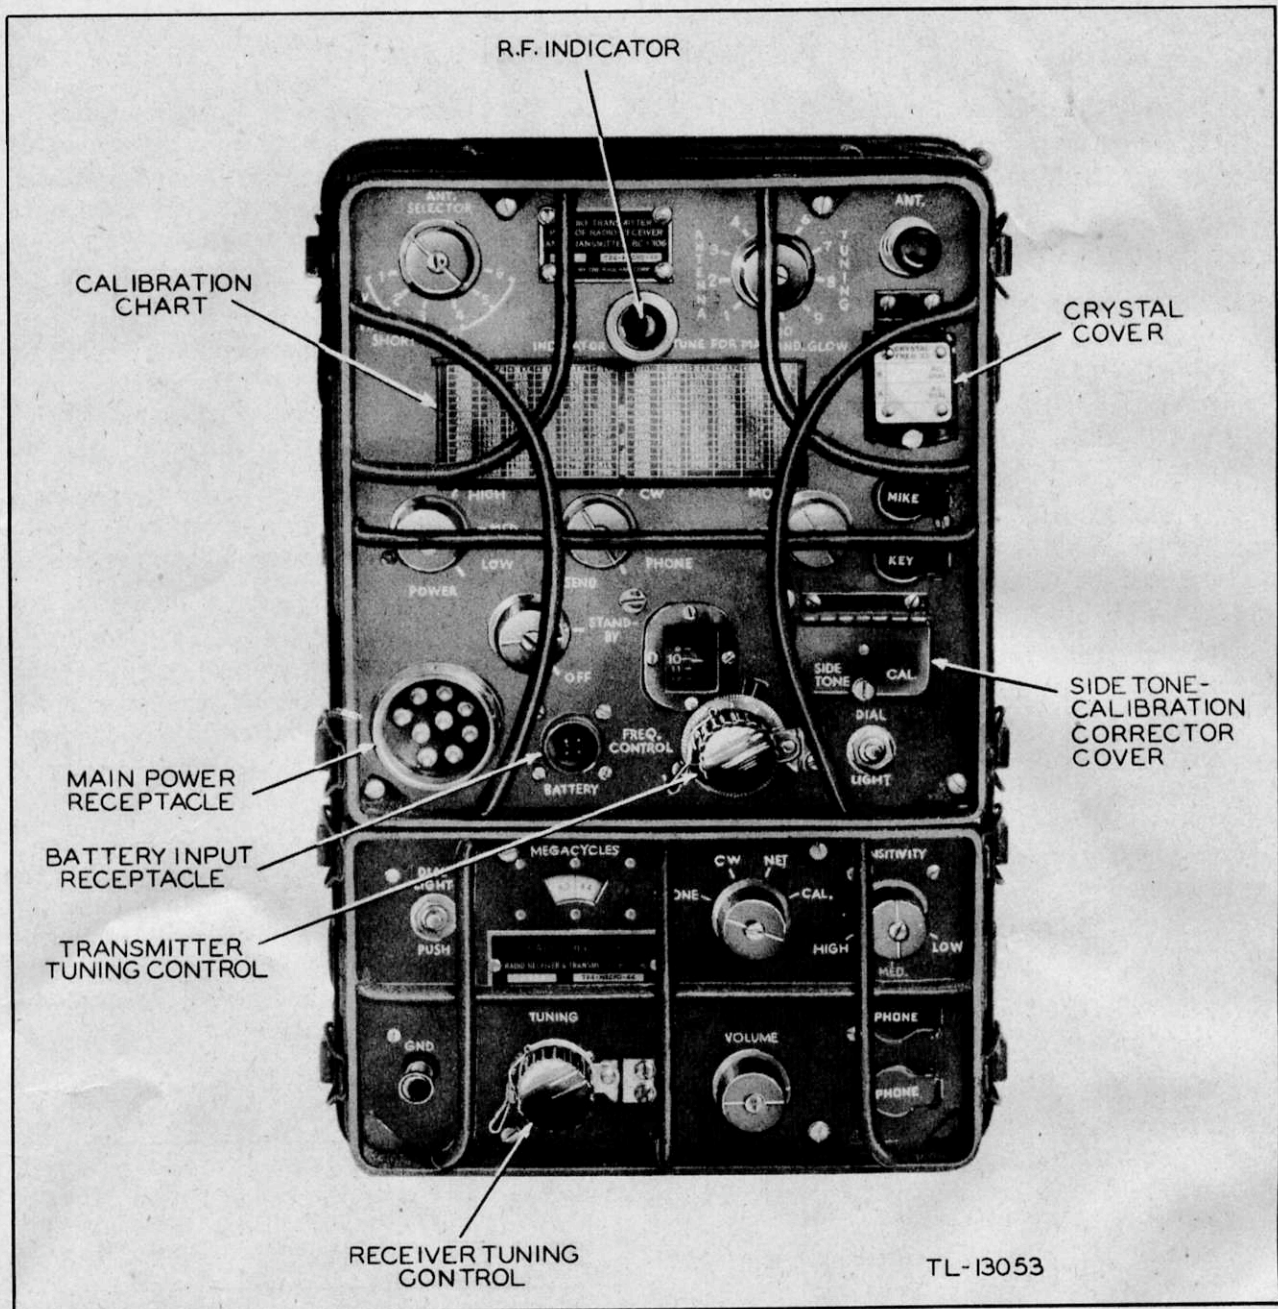

Figure 2. Radio Receiver and Transmitter BC-1306.
7. RADIO RECEIVER AND TRANSMITTER BC-1306. This component, shown in figure 2, is a